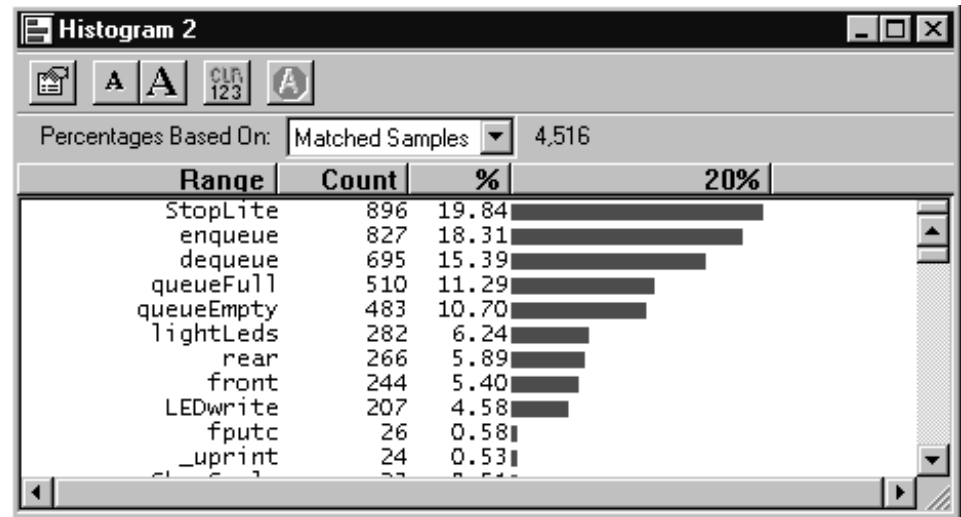

Figure 1–14: Histogram window
**Histogram Window.** Histogram windows (see Figure 1–14) display LA data as histograms. You use Histogram windows to evaluate the performance of software; this is also known as performance analysis.